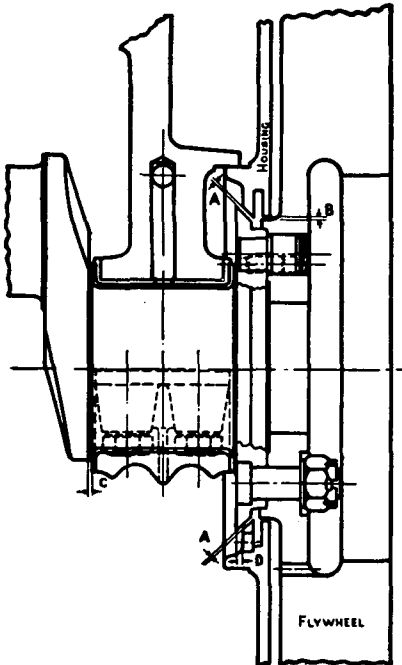

Fig. 10--Checking Flywheel Clearance
**BELLOUSING** - When installing a new bellhousing or a new rear main bearing the clearance between the oil throw flange on the crankshaft and the chamfer in the bellhousing may have been changed. This clearance as shown at "A" in illustration Fig. 10, must be checked carefully and controlled within the limits of .012 inch (.305 MM) to .025 inch (.635 MM), to prevent oil leaks.